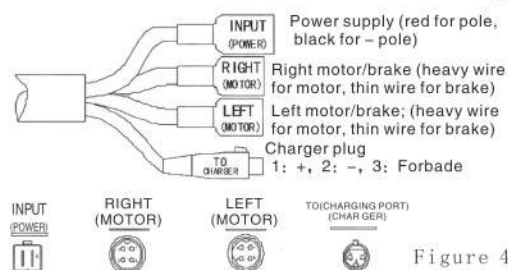

Figure 4
(7)Observe the cables located in the lower part of the vehicle; if you find the cables hanging to the ground, please bundle them with the attached cable ties and keep them off the groundHave a certain height (see Figure 4).